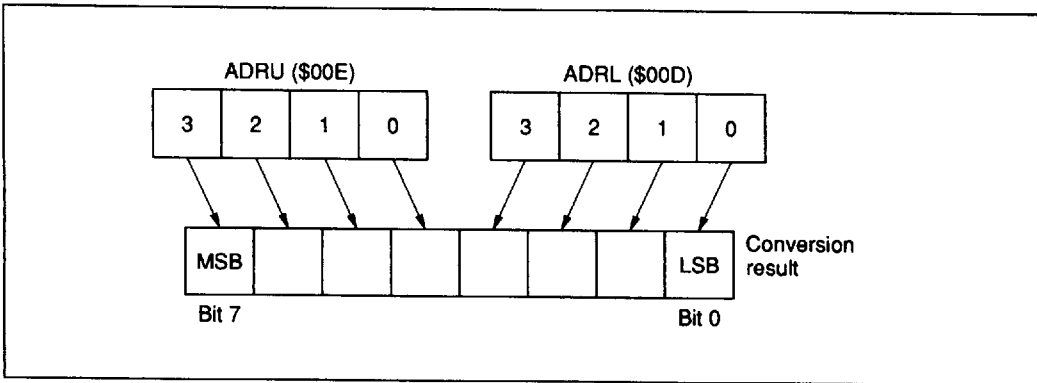

Figure 17 A/D Data Register Configuration
**A/D Data Register (ADRL: \$00D, ADRU: \$00E):** The A/D data register (figure 17) is a 4-bit/4-bit read-only register in which the 8-bit conversion result is set after completing A/D conversion. The data is preserved until the next conversion begins. Data read is not guaranteed during A/D conversion. The A/D data register is initialized to \$80 by the MCU reset.